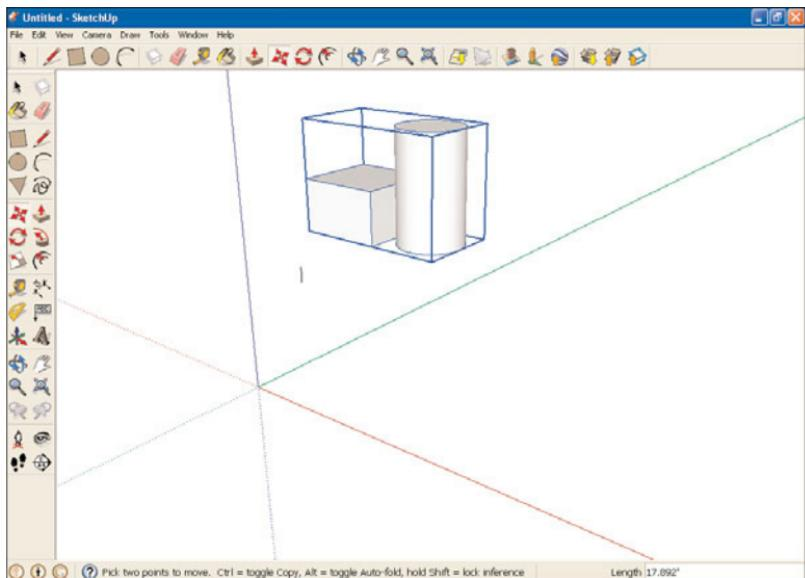

FIGURE 6.7 Moving the component.
2. Move the component to a new position, as shown in Figure 6.7.